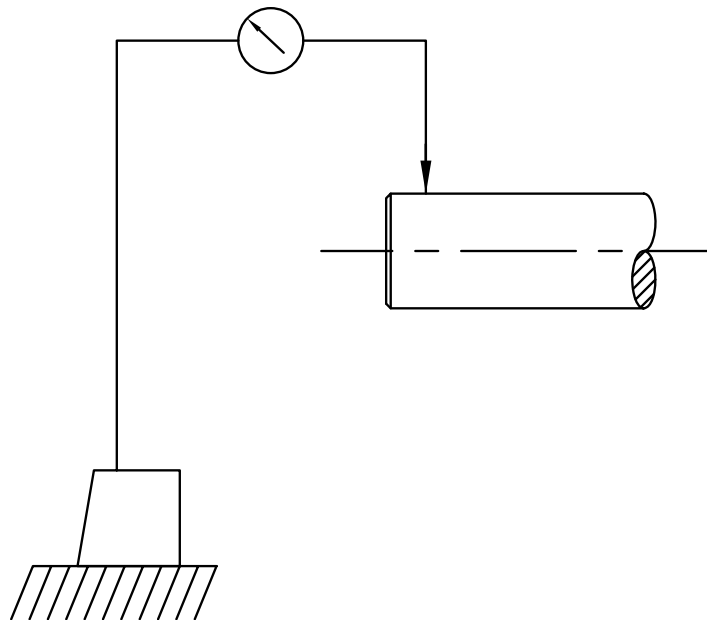

Figure 3.1 - Shaft TIR Diagram
2. Position the indicator measuring pin near the end of the shaft. Make sure the pin is making contact with the shaft (refer to Figure 3.1).